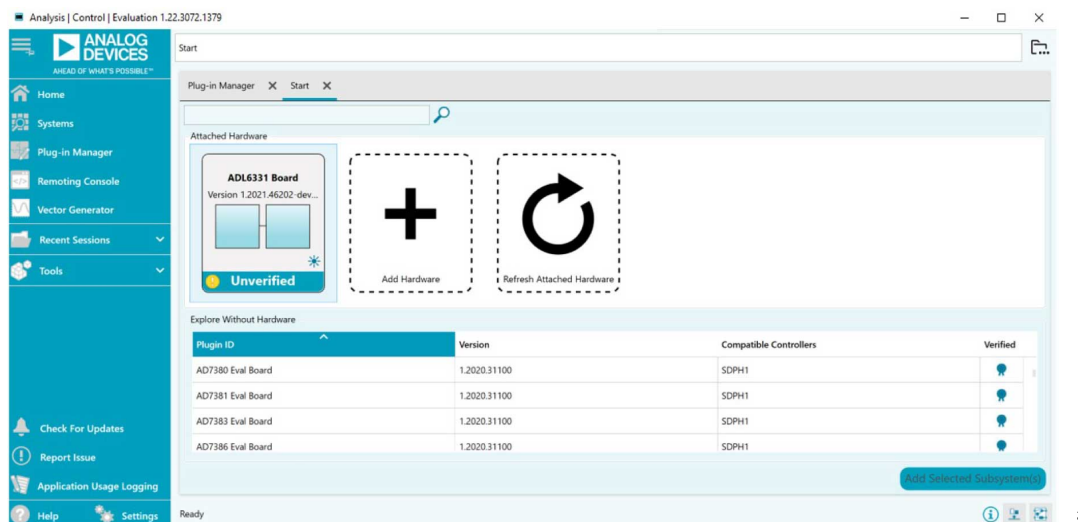
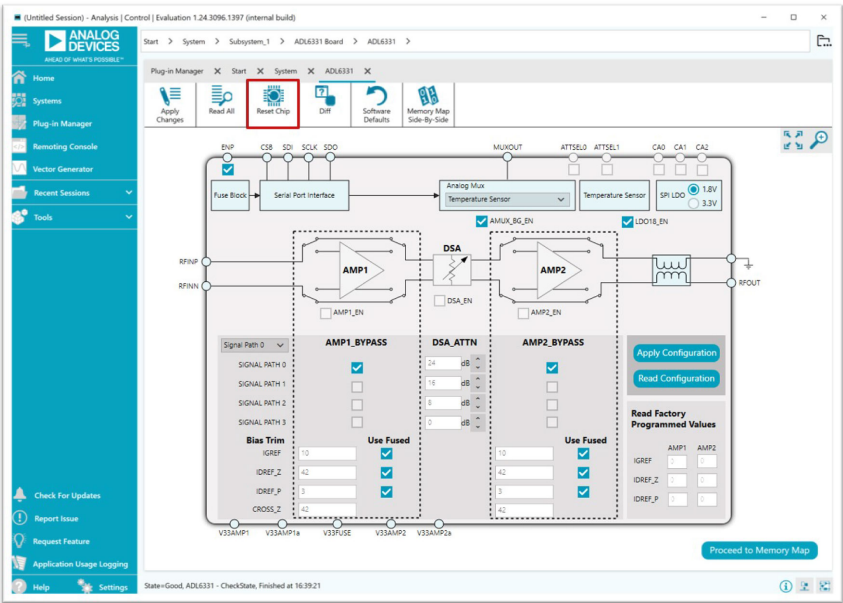

Figure 7. Initial ACE Start Page
Figure 8. ADL6331-EVALZA and ADL6331-EVALZB Board Level View (After Reset Chip and ENP Set to High)
3. Launch the ACE application. This action displays the initial ACE start page as shown in Figure 7. The ADL6331 is detected automatically and displays under **Attached Hardware**. As soon as the ADL6331 is detected by the ACE software, the ACE software automatically sets ENP to high. However, since the AMP1, AMP2, and DSA blocks are all disabled by default, the current consumption is very low. Approximately 3 mA is observed at the 3.3 V supply.
4. Click the **ADL6331 Board** icon shown in Figure 7 to open the evaluation board level view (see Figure 8). After opening, click **Reset Chip** before starting configurations.